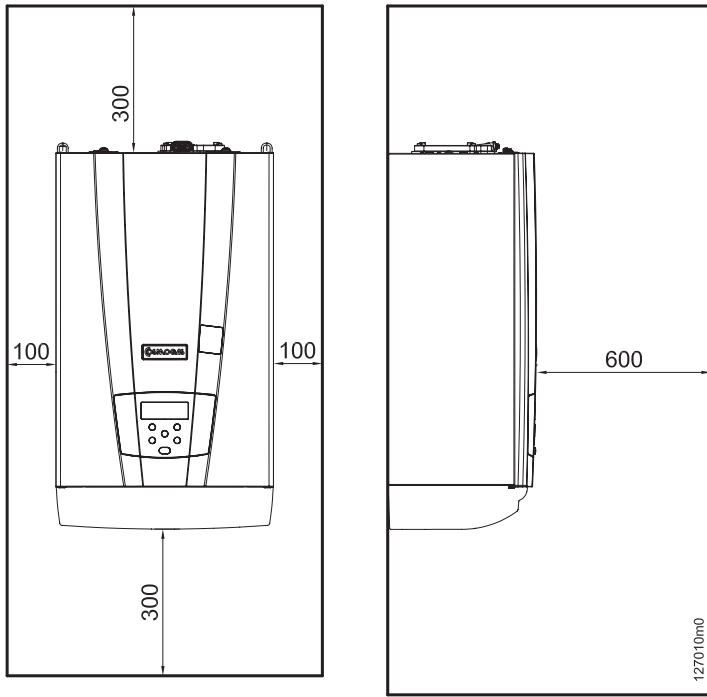

Figure 5.1 - Minimum safety distances
- ☞ Check figure 5.1 concerning the minimum safety distances for installation and future maintenance.
It is necessary to leave free spaces around the boiler as illustrated in figure 5.1 both for installation and maintenance.